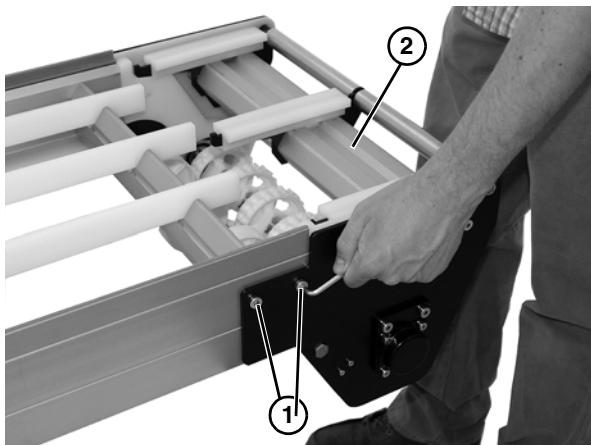

Figure 43
2. Remove two socket head bolts (**Figure 43, item 1**) on each side of drive tail assembly (**Figure 43, item 2**).